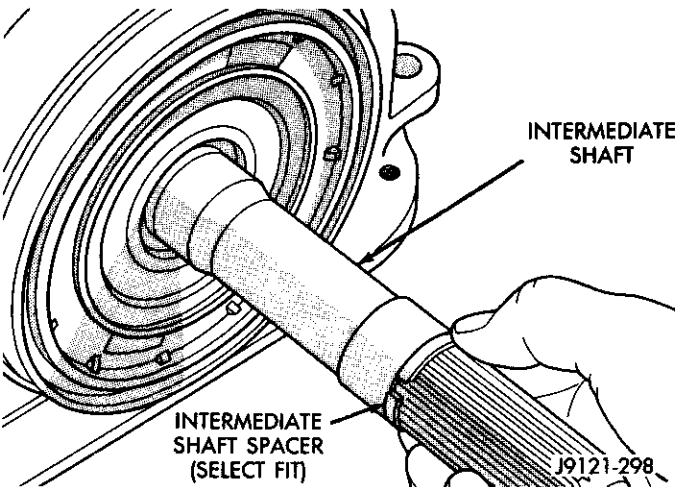

Fig. 2 Intermediate Shaft Spacer Location
(2) Remove intermediate shaft spacer (Fig. 2). Retain spacer. It is a select fit part and can be reused.